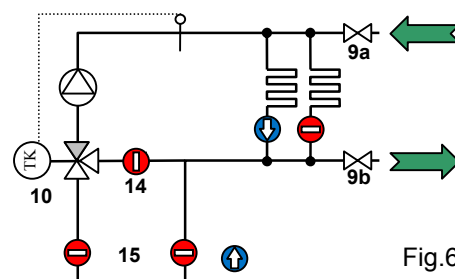

Fig.6
To fill and rinse the heating circuits connect the fill hose to the KFE cock on the supply branch of the manifold (Fig.6_9a) and the drain hose to the KFE cock on the return branch of the manifold (Fig.6_9b). Open the circuit to be filled and rinsed. Afterwards open the KFE cock and flush the loop until air and any impurities are completely removed from the circuit. The check valve (14) in the bypass of the 3-way-mixing valve prevents a short-circuit when rinsing the heating loops.